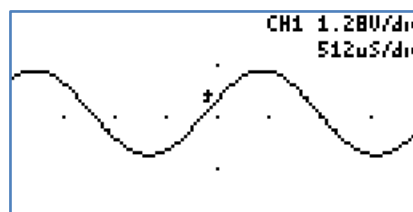

Figure 5: Quick start
- Press the K2 and K3 keys simultaneously (auto setup). The screen should look like figure 5.